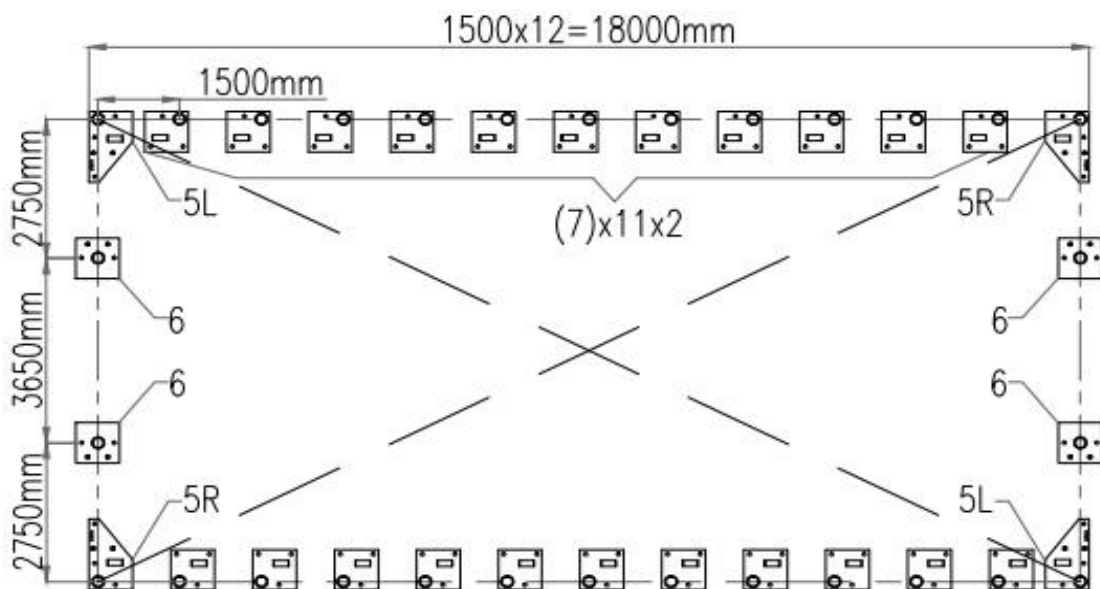

Figure 1
- Baseplates : all baseplates must be installed firmly with expansion bolts (#16) on this step (figure 1).
- (4) Baseplates (#5L, #5R)
- (22) Baseplates (#7)